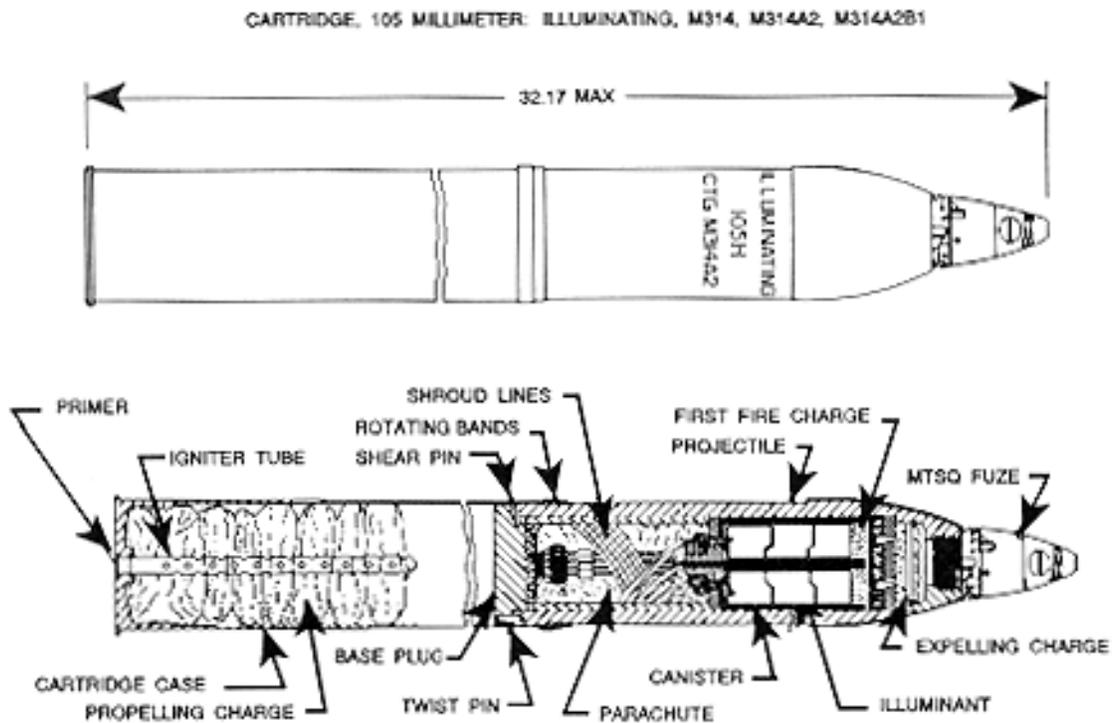

Figure 2-6. Illuminating projectile
c. **Illuminating round.** Illuminating rounds, which are available for the 105-mm and 155-mm weapons, are used for signaling or for illuminating a designated area or for marking an area (Figure 2-6). The 105-mm M314 illumination projectile is made from a steel forging and fitted with a soft metal rotating band, a pinned base plug, an expelling charge, and an illuminating canister and time fuze. When the fuze functions, the expelling charge is ignited, and the canister, with parachute, is ejected into the airstream. Characteristics of the luminants are as follows: